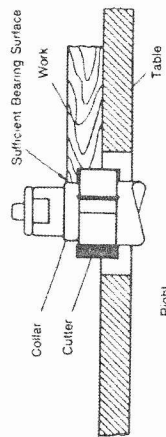

Fig. 12
4. Figure 12 illustrates sufficient bearing surface.